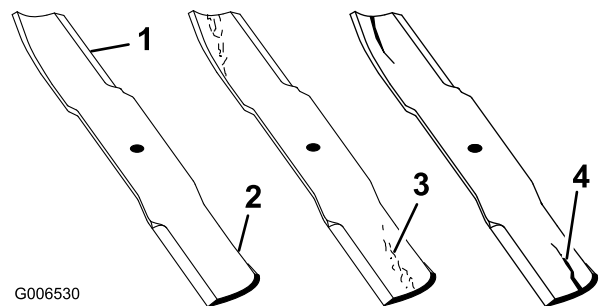

Figure 71
1. Inspect the cutting edges (Figure 71). If the edges are not sharp or have nicks, remove and sharpen the blades. Refer to Sharpening the Blades.
2. Inspect the blades, especially the curved area. If you notice any cracks, wear, or a slot forming in this area immediately install a new blades (Figure 71).